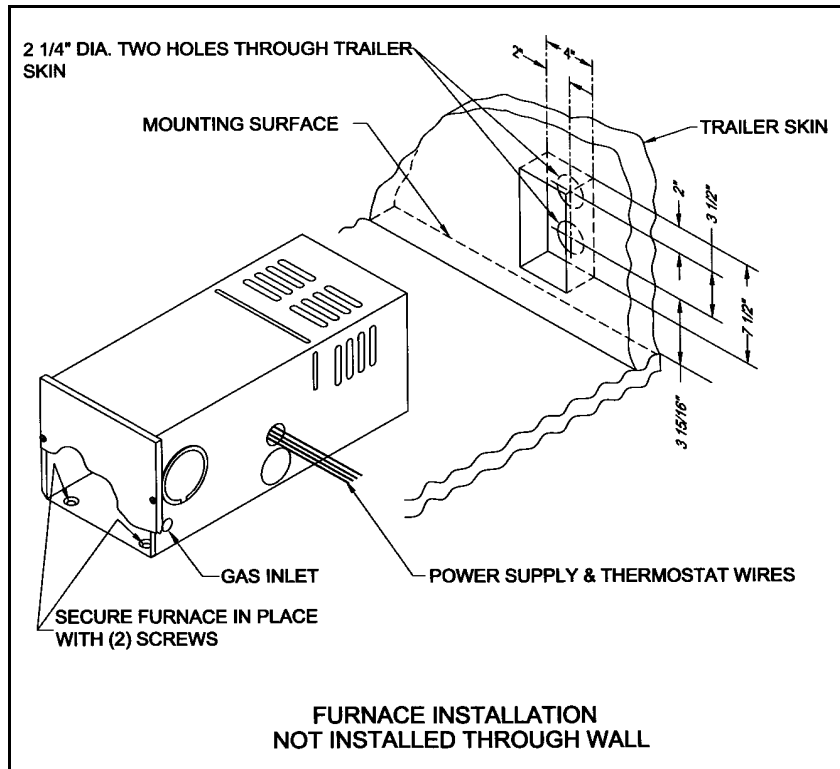
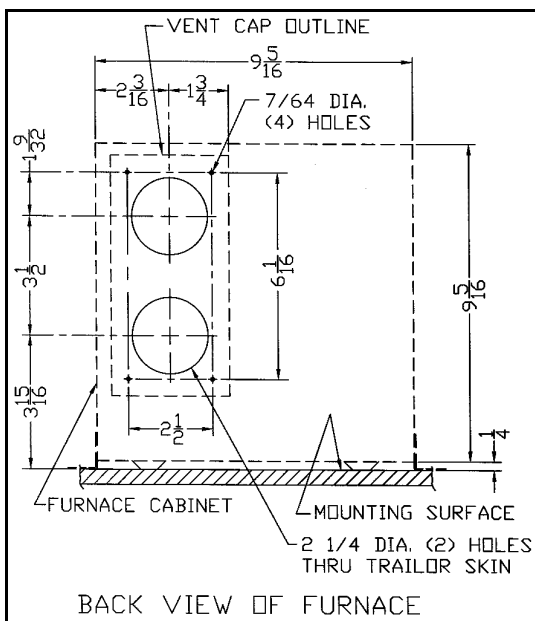
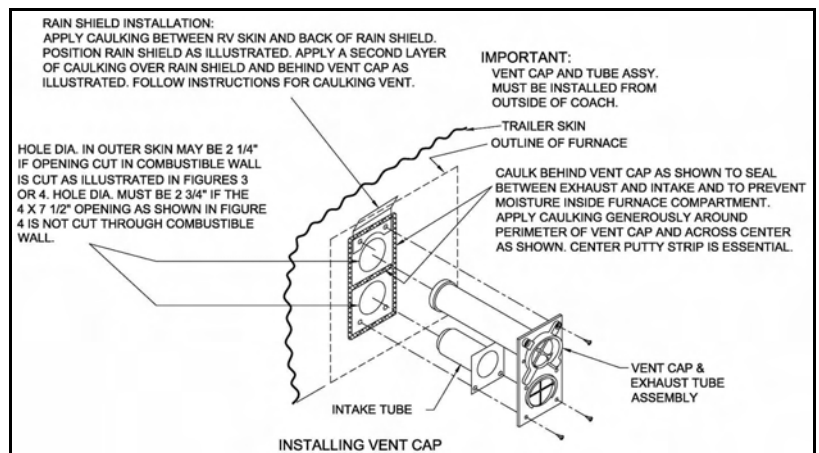

Figure 4
Figure 5
Figure 7
a. Cut a 4" x 7 1/2" opening through combustible wall as shown in Figure 4. **DO NOT CUT THROUGH TRAILER SKIN.** Next, locate the center line of the exhaust and intake tube. Cut two (2) 2 1/4" diameter holes through trailer skin. (See Figure 5.)
exhaust and intake tube as shown in Figure 5. Next, cut two (2) 2 3/4" diameter holes through trailer skin and also the combustible wall of the trailer as illustrated in Figure 7. Care must be taken when locating the center line of the exhaust and intake tube as well as when cutting the holes in order to assure a 3/8" clearance around the exhaust and intake tubes to combustible materials.
Suburban recommends all vents be installed using the rain shield supplied. (See Figure 7)
1. Apply caulking to RV skin behind vent cap as shown in Figure 7. Apply caulking generously around perimeter of vent cap and across center as shown.